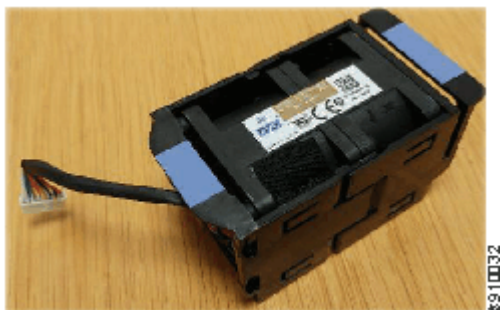

Figure 99. Replacement fan module
4. Remove the replacement fan module from its packaging. Figure 99 on page 142 shows an example of a fan module.